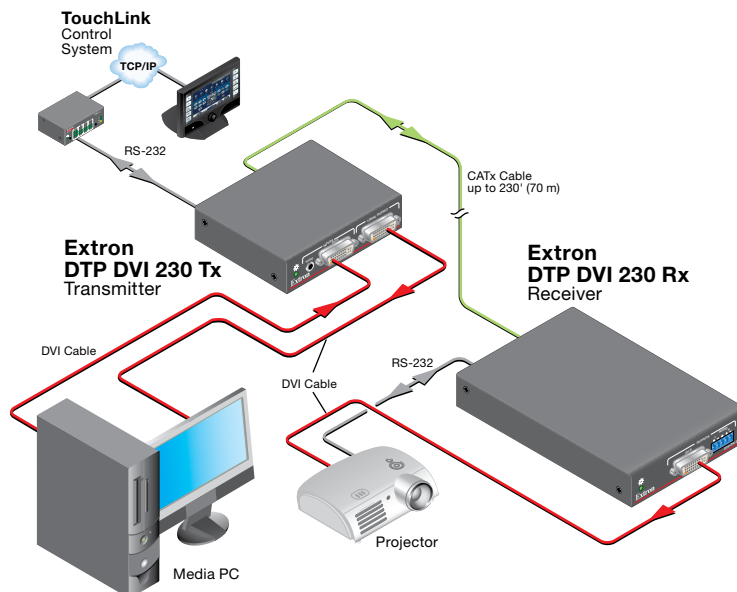

Figure 1. Typical Transmitter and Receiver Application
The Extron DTP DVI 230 Tx/Rx transmitter and receiver pair (see figure 1) extends the usable distance of DVI digital video, optional analog audio, and bidirectional RS-232 and infrared (IR) control signals over one Extron XTP DTP 24 shielded twisted pair (STP) cable (recommended) or Category (CAT) 5e, CAT 6, or CAT 6a STP or unshielded twisted pair (UTP) cable. The DTP DVI 230 can also extend HDMI video, which may include embedded audio, with the appropriate adapters. The video, audio, and control signals can be transmitted up to 230 feet (70 m).